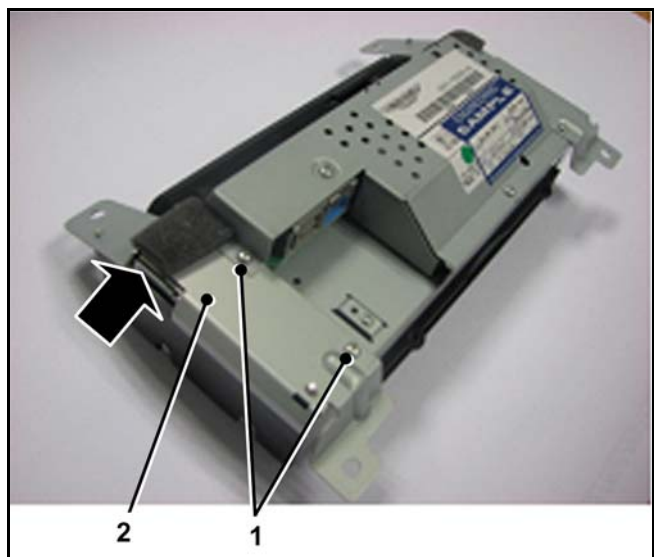

Figure 6
6. Remove the two M3 screws (1) from the bottom bracket (2) (see Figure 6).